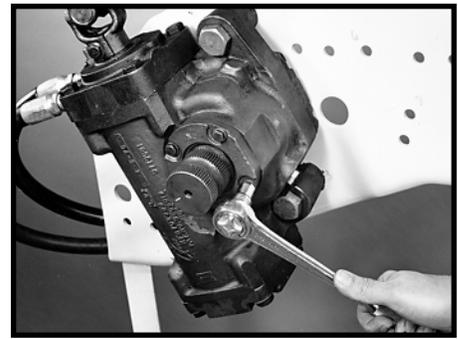

Figure 10
1.4 Next, remove the four trunnion cover bolts (28) washers (27) and trunnion cover (25). SEE FIGURE 10. A 1/2 inch socket required. Be prepared for fluid loss. Then remove and discard the sector shaft seal package consisting of the two-piece sector shaft seal (23), the Teflon\* backup washer (24), and the trunnion cover seal ring (22). SEE FIGURE 11.